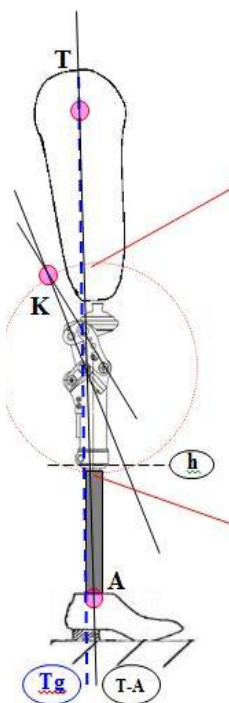

Fig. 2
Note: 4-bar knees inherently are very stable due to the geometry built into each design. This is commonly referred to as the Instant Knee Center (IKC). The IKC point when doing bench alignment, will fall behind the traditional TKA line that we will reference. (Fig. 2,3) Tg line in Fig. 3 is ideal placement, but in certain instances, it may be necessary to accommodate placement anteriorly (into the T1 zone up to 2mm), or posteriorly (into the T2 zone up to 2mm). The Tg line is referencing a moving weight bearing line, so it could be in T1, neutral, or in T2 zones.
a) With prosthesis assembled, taking into account hip flexion contractures, abduction, Line Of Progression, and toe out (Fig.2), the TKA plumb line should pass through the knee center (at the proximal/anterior pivot – red dot pivot Fig.3) and in front of the K point (IKC). Take into account shoe heel height, and add 3mm safety factor.